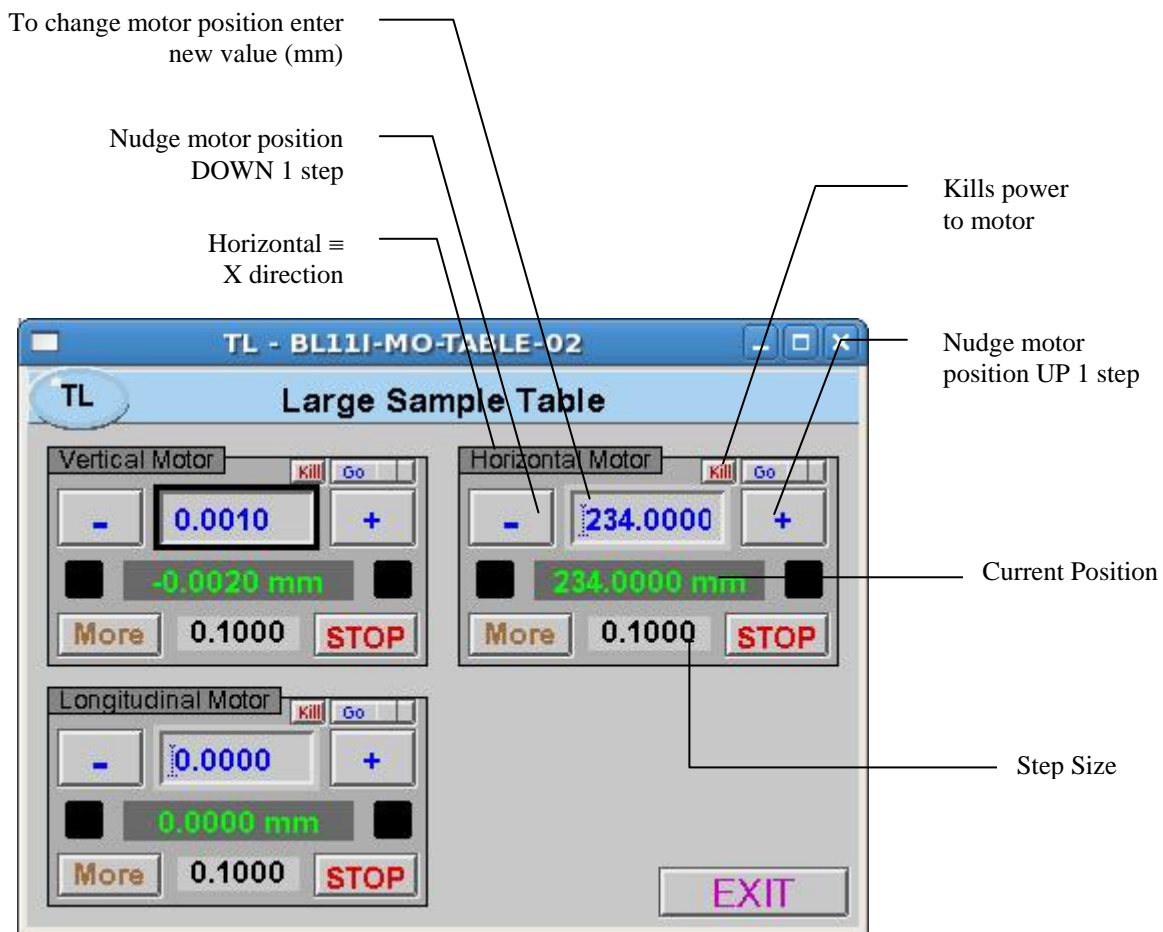

Figure 16 Motor control for large sample table.
- Execute `pos tlx 300` command (or use control window Figure 16) to move large table out of position , allowing access to diffractometer
- Execute `pos tlx 0` command (or use control window Figure 16) to move large table, with Cryostream, back into position